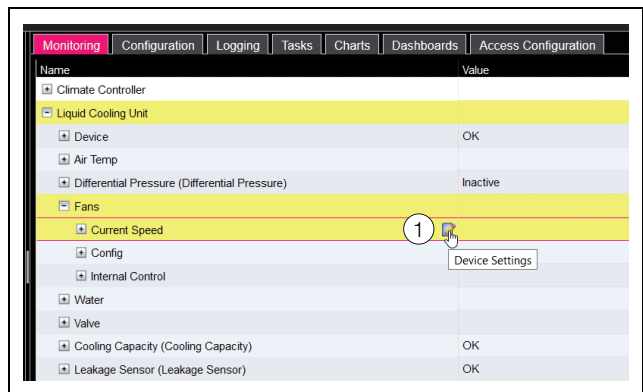

Fig. 34: Editable parameter with "Edit" symbol
For all parameters that can be changed, an "Edit" symbol in the form of a stylised notepad and pen will appear after the respective parameter if the mouse pointer is placed in the relevant line (fig. 34, item 1).